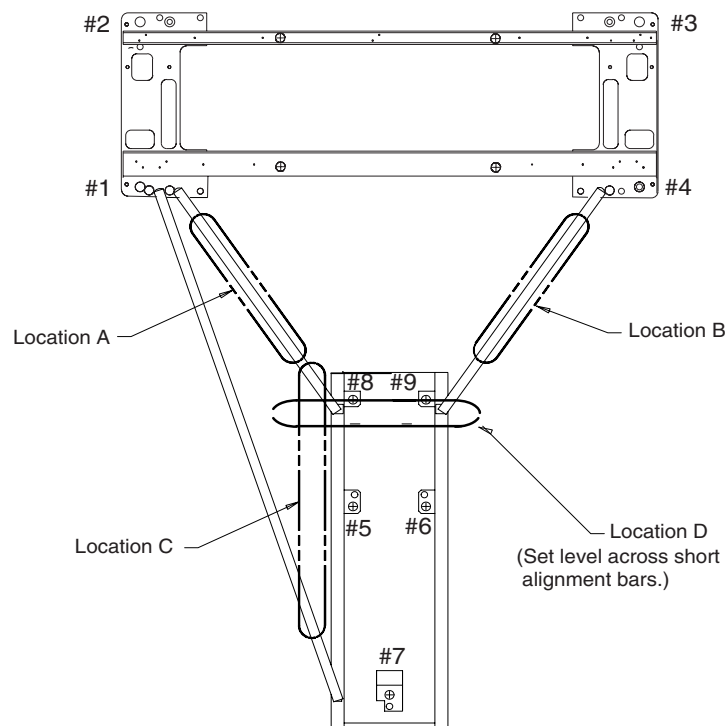

Figure 1-18 Table Base Gantry/Table Level Locations
- 1.) Loosen and unload adjusters #5 and #6. (Refer to Figure 1-18.) Do not remove shipping bolts.
- 5.) Systematically level locations A, B, and C (refer to Figure 1-18) by turning each adjuster. We suggest a maximum of 1 turn at a time.
- 8.) Screw down the adjusters at table Locations #5 and #6, until each rests tightly against its leveling pad. Tighten each adjuster a little more than hand tight, but take care not to unload any of the other table adjusters. It's important that locations #5 - #9 (Figure 1-18) all bear part of the table's load.
- 1.) Re-check bubble levels and loading first. Refer to Figure 1-18, on page 38.